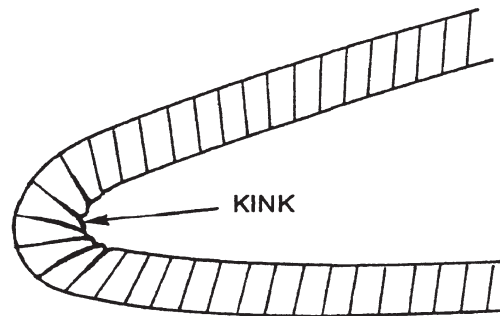

Figure: 5-3 – Repair Necessary. Damage Due to Bending Beyond Minimum Bend Radius
- c. The tubing has been bent beyond its minimum bend radius so that a crease or kink remains. Figure: 5-3.